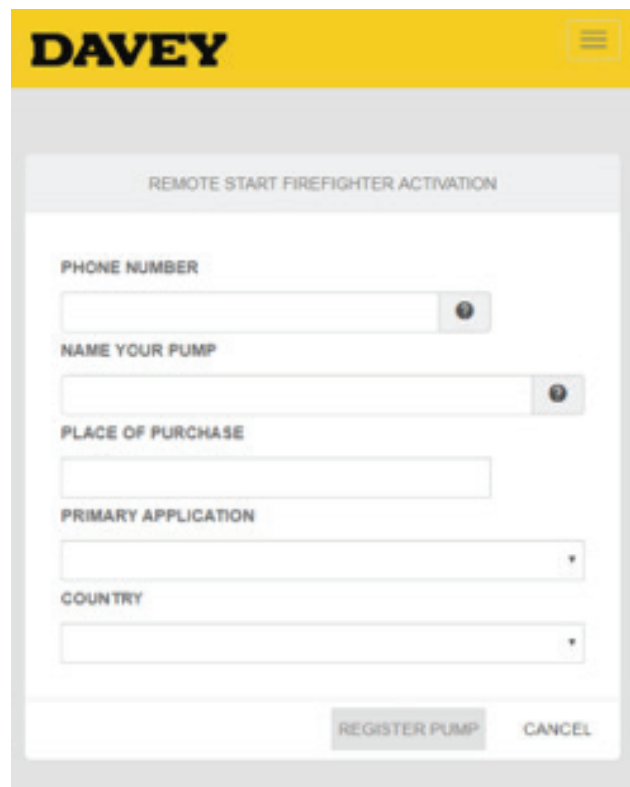

Figure 7.15
- > Activate the remote start Firefighter pump (Figure 7.15) by logging the phone number (of the pump). To locate SIM card number, refer to start of section 7 of this booklet;